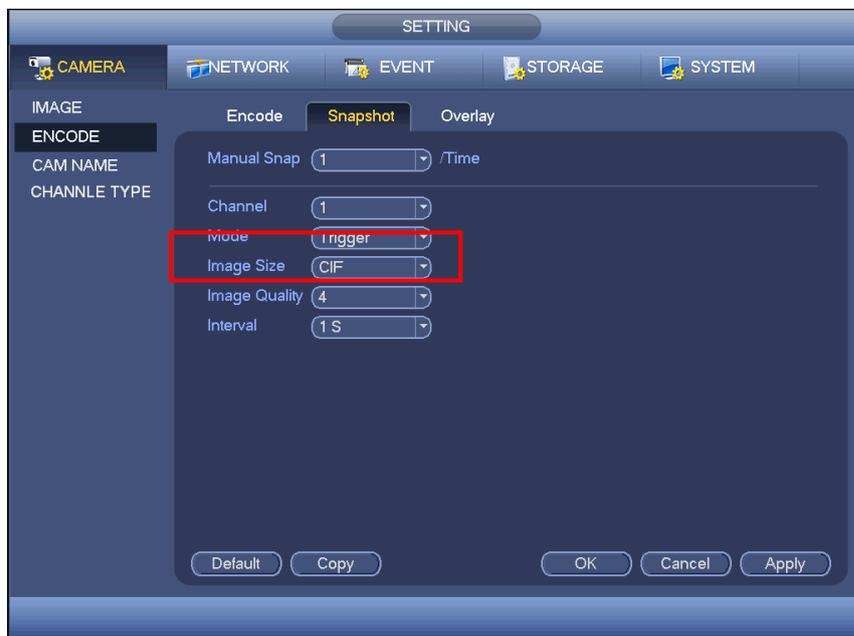

Figure 4-145
- In main menu, from Setting->Camera->Encode->Snapshot interface, here you can input snapshot mode as trigger, size, quality and frequency. See Figure 4-145.